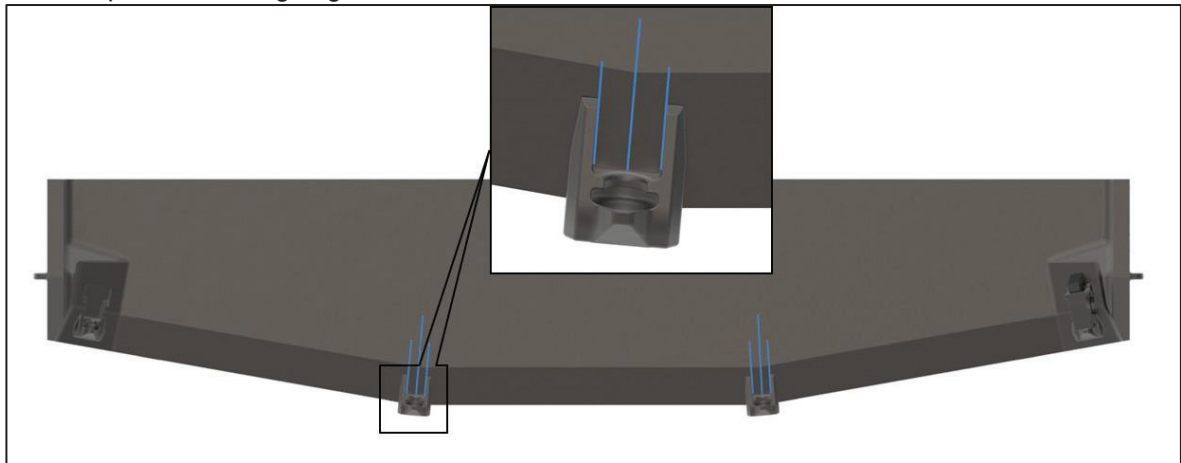

Figure 21 Boss positioning
2.13.1. Locate Transition Boss at the spade corner at the pre-marked parallel line locations mentioned in step 2.12. Refer Figure 21. The bottom design feature of the boss will locate the transition point of the lip at the leading edge.